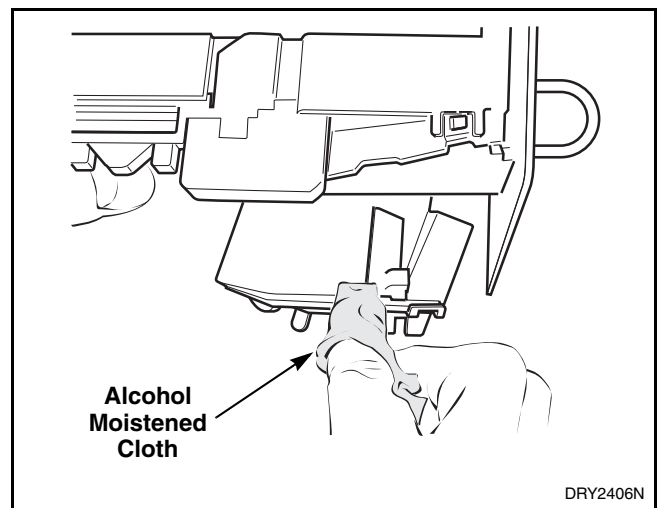

Figure 91
- e. Clean residue from coin rail with an alcohol moistened cloth. Refer to Refer to *Figure 91*.